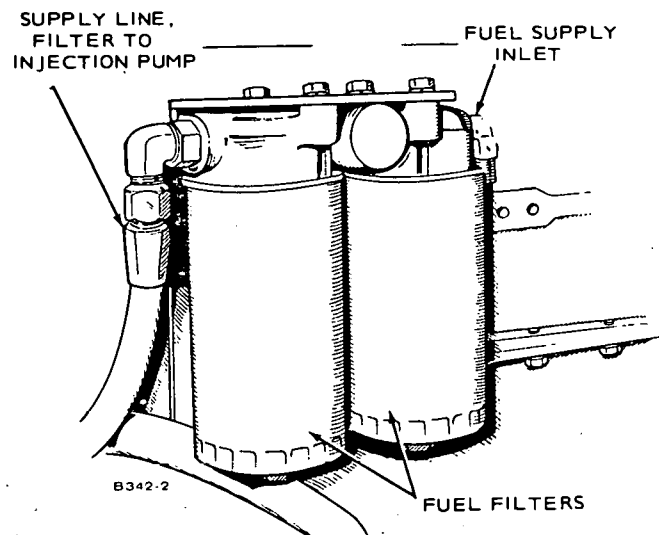

FIGURE 27. FUEL FILTERS
**Fuel Filter:** Spin-off throw-away unit. A water drain is situated at the bottom of the filter case. This should be used to drain off moisture either daily or at the end of every exercise period, depending on unit application. When replacing filter, fill with clean fuel before installation (see Figure 27).